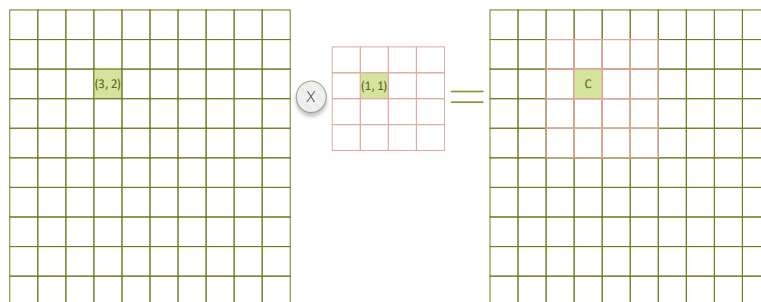

Figure 9-1 2-D convolution filter example
- Figure 9-1 illustrates a 2-D convolution filter having size of 10x10 and its center point is located at coordinates (`cx = 1, cy = 1`).